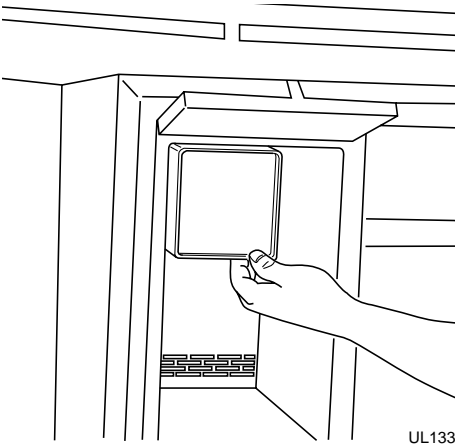

Figure 39
1. Remove the ice maker assembly cover (see Figure 39).